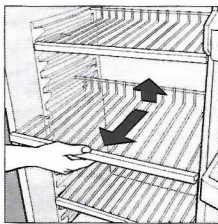

Fig. 1
- The refrigerator compartment is equipped with convenient, removable shelves (Fig. 1) which can be adjusted for height using the shelf guides.